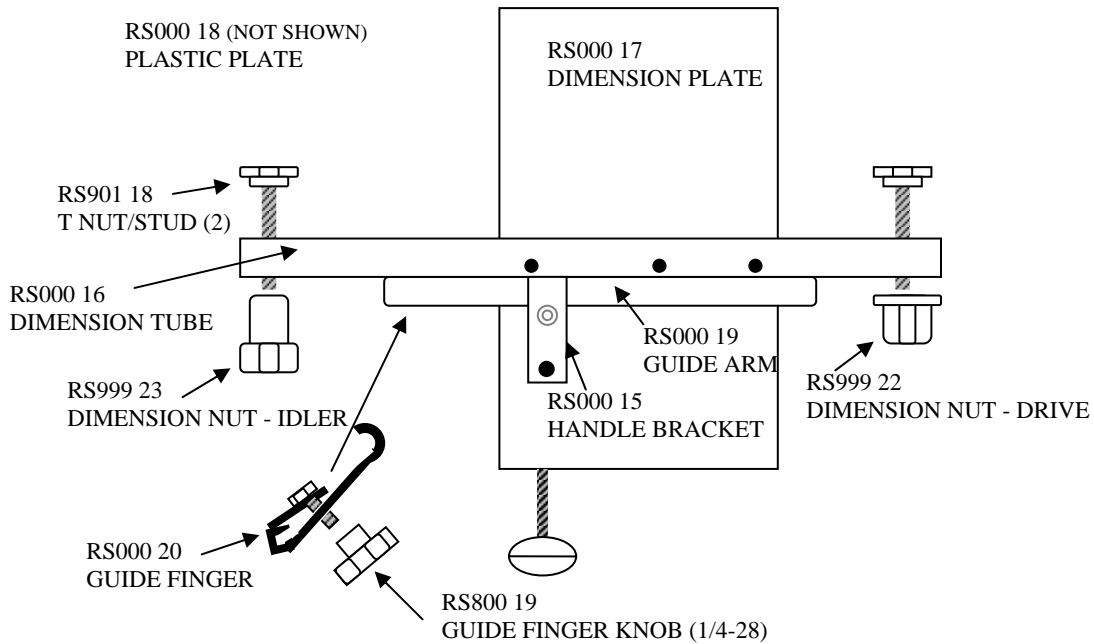

Figure 1. Dimension plate assembly
8. Slide guide finger onto guide arm (*Figure 1*) and tighten knob.